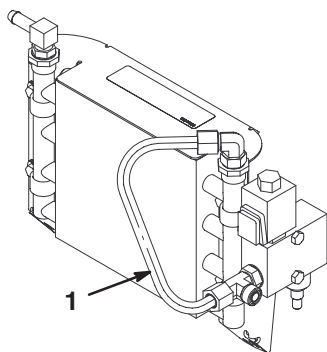

Figure 13
31. Mount the hard hydraulic line to the fitting on the left side of the cooler and to the fitting on the front of the valve (Fig. 13).